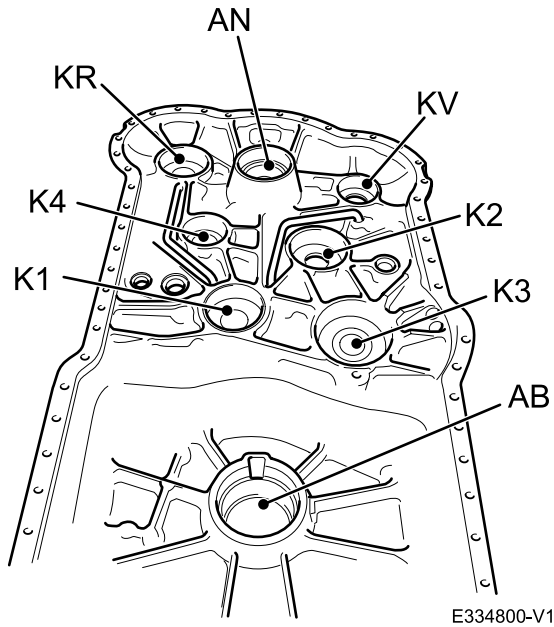

Fig 82.
Key ⇒ Fig 82. (□ F-74)
- 6 Grease rectangular rings (arrowed) in and align them centrally ⇒ Fig 82. (□ F-74).